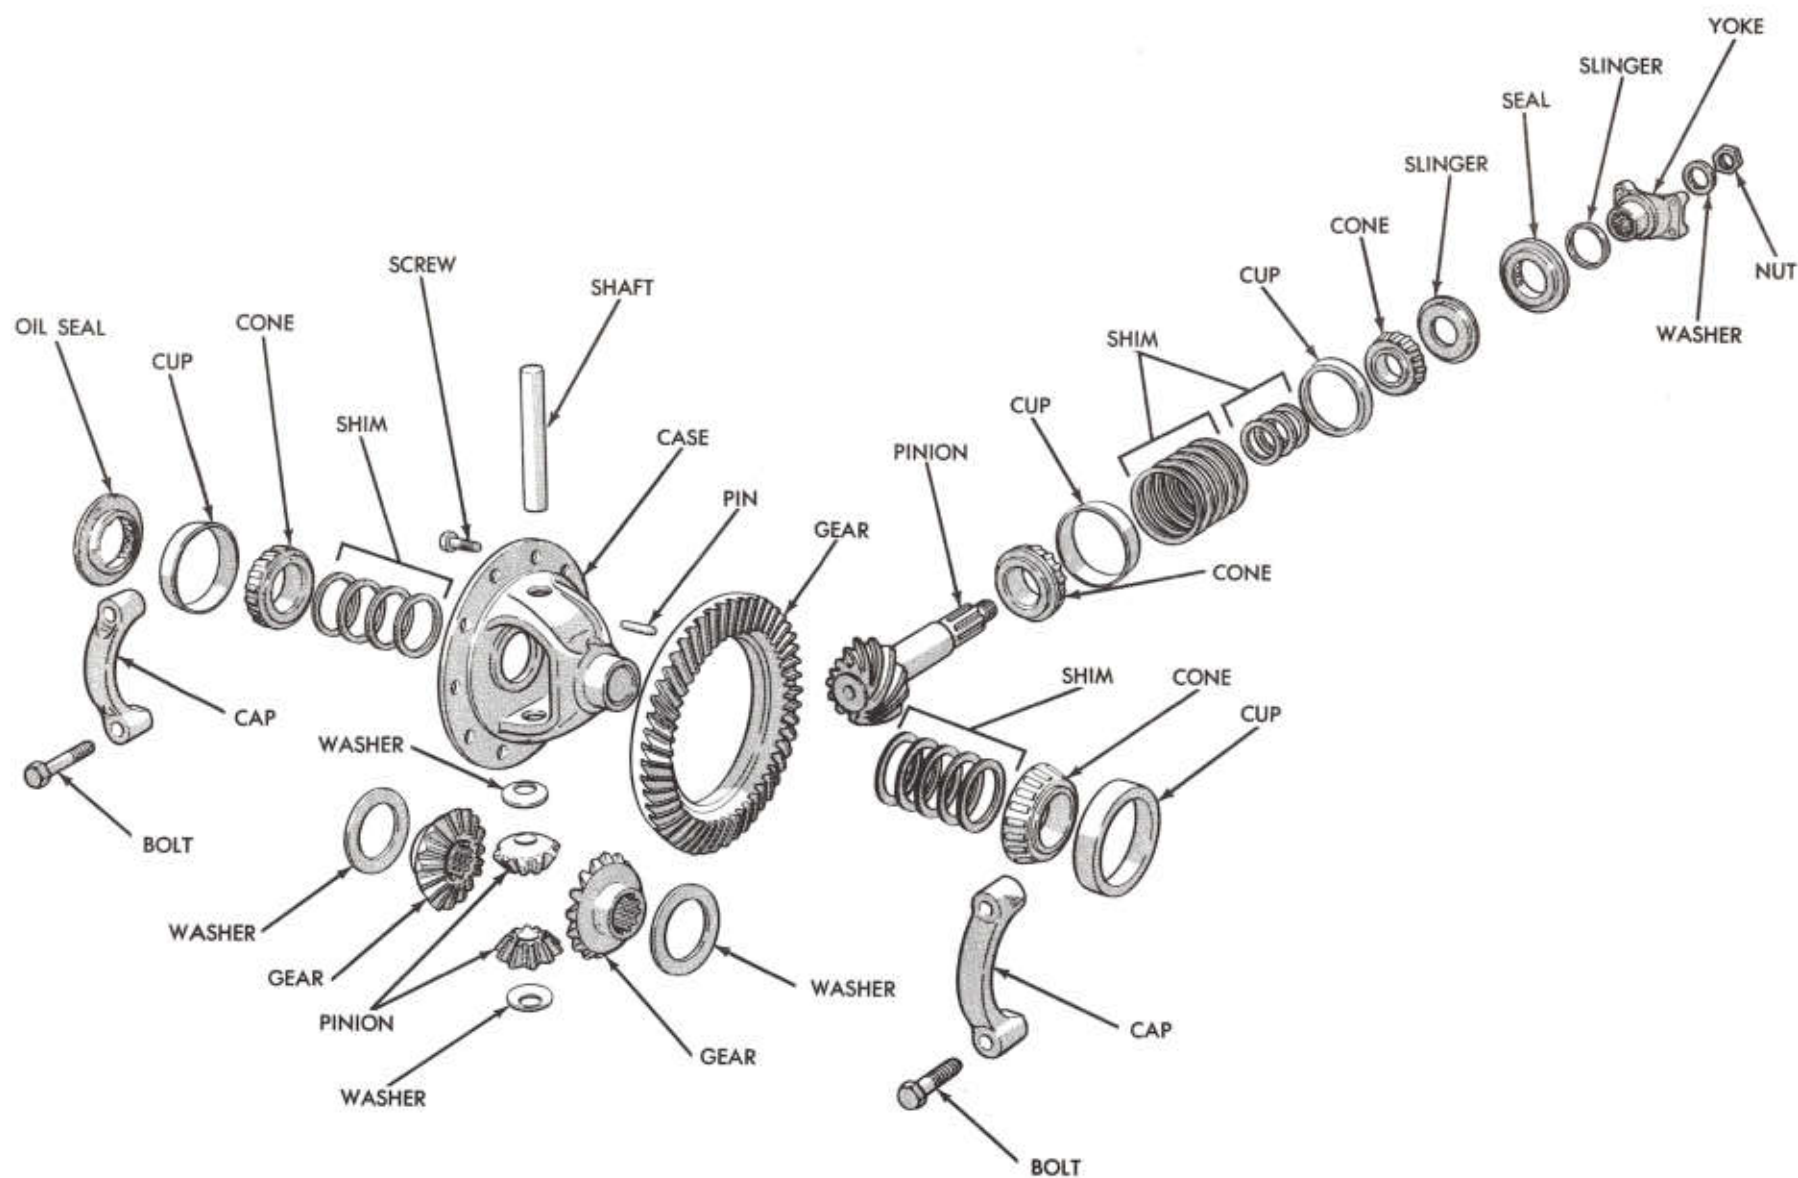

Fig. 9—Differential, Front Driving (44-8FD) Axle
(28) Wash all parts including carrier and tube assembly with suitable solvent. Do not steam clean. (Fig. 9) shows an exploded view of the differential assembly.
(29) Examine all bearing surfaces and splines for burrs or scoring. Remove burrs with a hand stone.
(30) Check all bearing cups and cones for nicks,